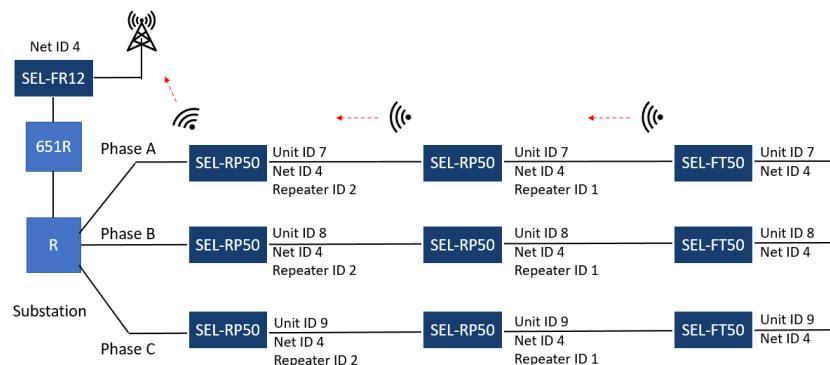

Figure 34 Selection of Unit ID, Net ID, and Repeater ID
- Each SEL-RP50 only repeats signals from one SEL-FT50, or another SEL-RP50 with matching Unit ID and Network ID. See *Figure 34* and *Figure 35*.
Refer to *Figure 34* for a settings example for simple SEL-FT50, SEL-RP50, and SEL-FR12 system. The diagram breaks the feeder one-line to show individual phases, and to provide the important detail on phase and Unit ID matching between each SEL-FT50 and SEL-RP50. In other diagrams the three SEL-FT50s or SEL-RP50s are drawn in a stacked manner to allow the diagram to be less-cluttered. The key information: